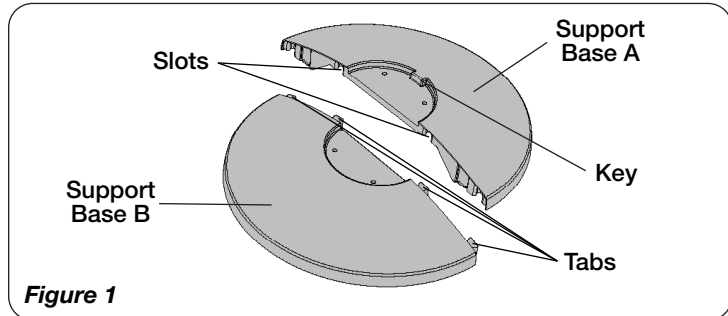

Figure 1
2. Assemble the Support Base Halves by interlocking the **Tabs** on **Support Base A** into the **Slots** on **Support Base B**. (*Figure 1*)